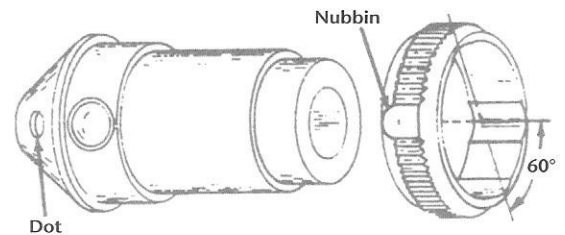

Fig 15
Assemble "O" ring (70) and 1/8" steel ball (73) in accessory bushing (69) with lubricant to hold in place. Lubricate and assemble 5/32" steel ball (74) in larger opening. Referring to Fig. 15 align nubbin at smooth spot on lock ring (71) with dot on accessory bushing (69). Nubbin should be on side of lock ring toward bushing. Slip ring on bushing. Orient dot on bushing with any corner of hex on cylinder sleeve (60) and press bushing into sleeve up to bushing shoulder.